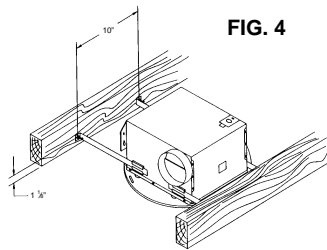

FIG. 4
- OPTION #2:** Insert (4) mounting brackets with angels pointing away from housing. In location between ceiling joists where housing will be located, drive (2) nails (4D or 6D) 1 1/8" from the bottom of the joist, 10" apart leaving 1/4" of nail projecting. Position one set of mounting brackets over nails and drop into place. Extend remaining mounting brackets to the adjacent joist and repeat nailing procedure. See Fig. 4. Finish driving nails and adjust housing between ceiling joist.